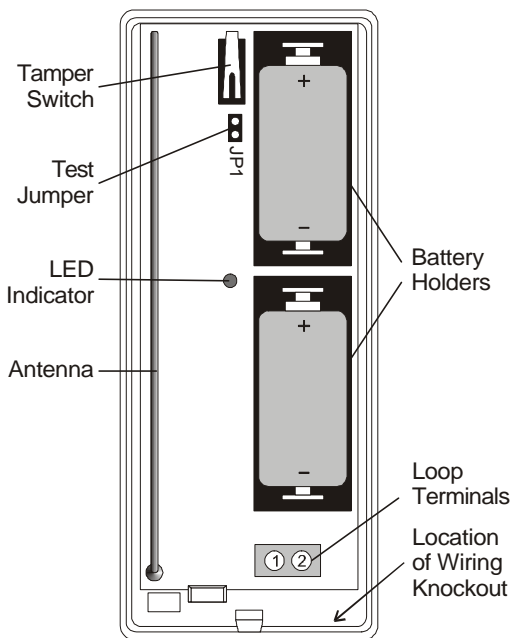

Figure 1: PCB
- Observing correct polarity, insert two lithium batteries into the battery holders as shown in figure 1.